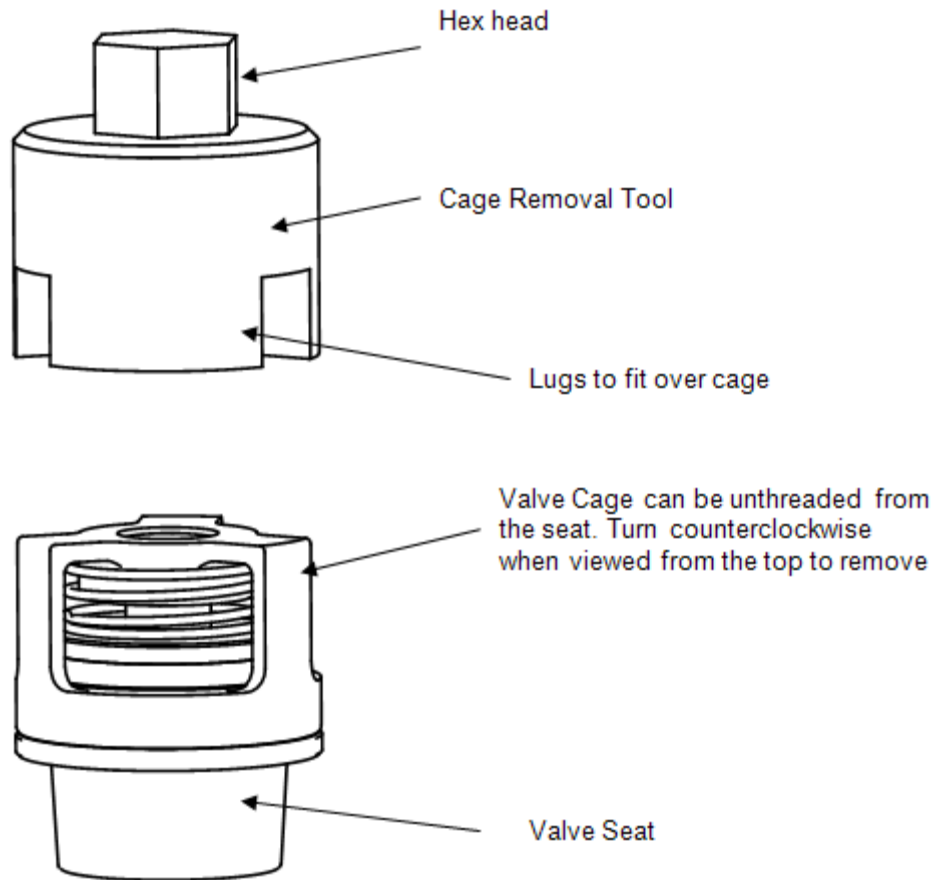

Figure 9: Valve Disassembly
**Use the hex cage removal tool for reassembly. The tool is shown in Figure 9**